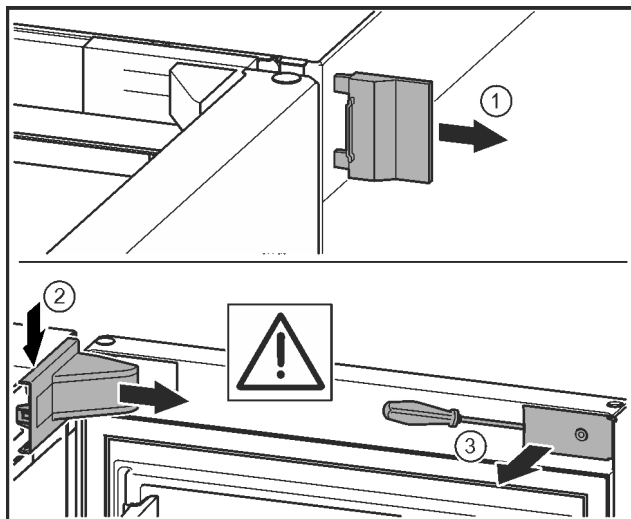

Fig. 9
► Remove the outer cover. Fig. 9 (1)
► Disengage and release the bearing bracket cover. Remove the bearing bracket cover. Fig. 9 (2)
► Unlatch the panel with a slotted screwdriver and swivel it to one side. Fig. 9 (3)